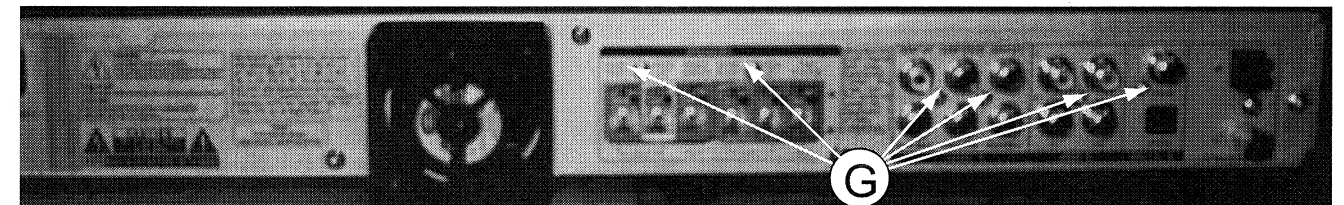

Figure 7
- 2) Loosen 6 screw "G" at the back panel as shown in figure 7.